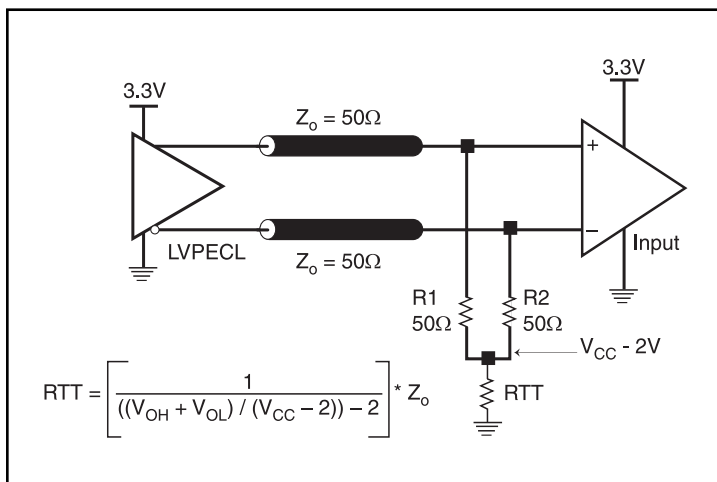
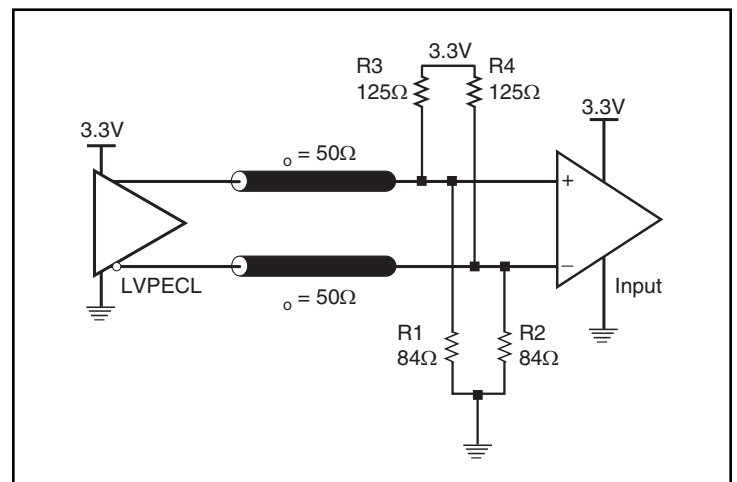

Figure 2A. 3.3V LVPECL Output Termination
Figure 2B. 3.3V LVPECL Output Termination
*Figure 2A* and *Figure 2B* show two different layouts which are recommended only as guidelines. Other suitable clock layouts may exist and it would be recommended that the board designers simulate to guarantee compatibility across all printed circuit and clock component process variations.